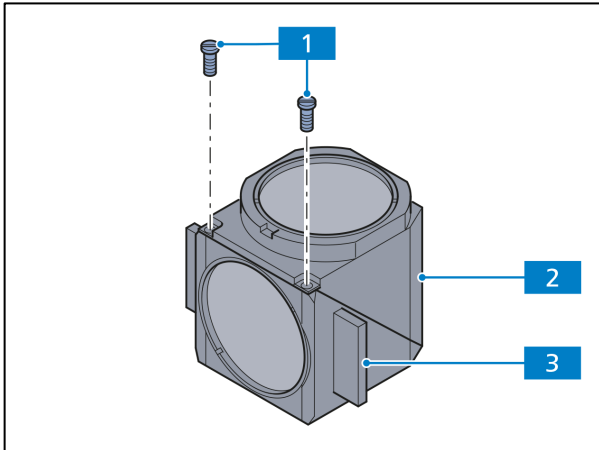

Fig. 3-44 Opening the module
- Loosen both slit screws (Fig. 3-44/1) with a screwdriver.
- Hold both parts of the reflector module (the **emission** part (Fig. 3-44/2) and the **excitation** part (Fig. 3-44/3) together, turn them against the mounting position and put them down.